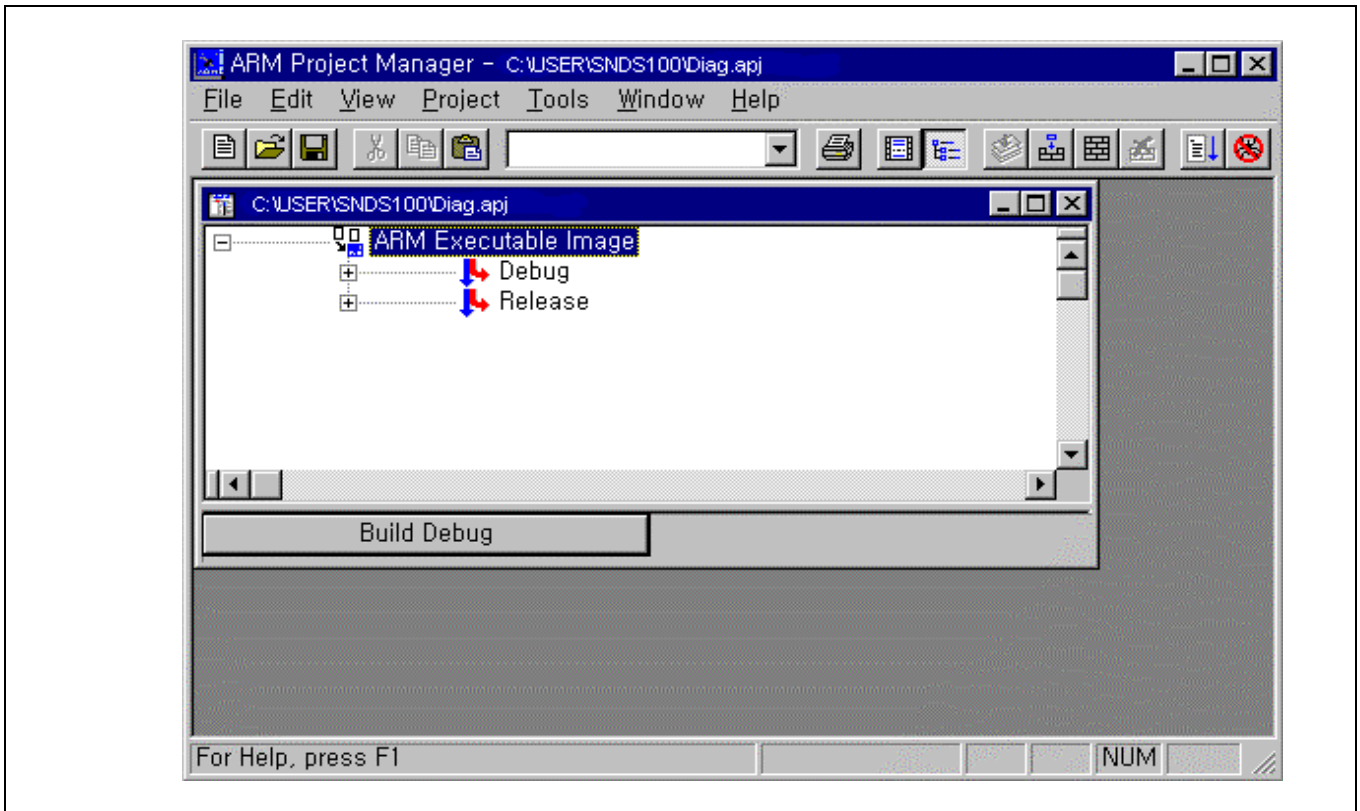

Figure 2-8. Project Window
4. When you have created a new project, the information in the Project Window is displayed in a hierarchical flow diagram. (Figure 2-8)